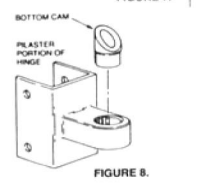

FIGURE 8.
- Insert bottom nylon cam into the pilaster portion of the hinge bracket assembly. (see fig 8). The cam should be set to the same desired position on upper and lower hinge assemblies. (see fig 9)